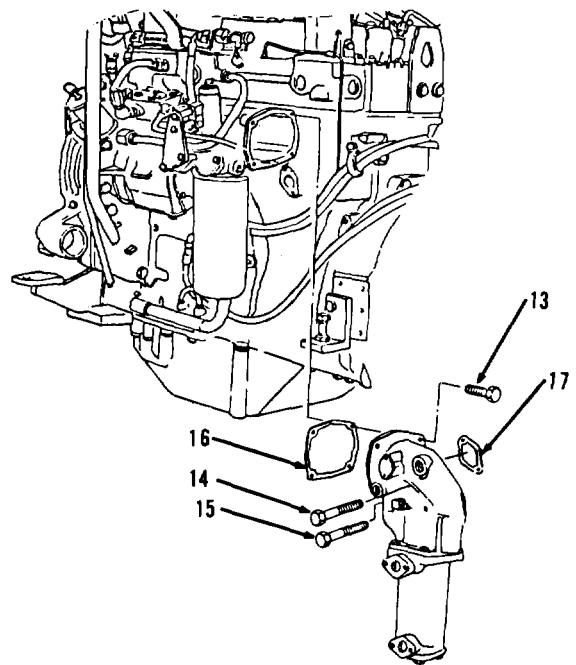

Figure 5-61.
1. Position two new gaskets (17 and 16) and items 31 thru 18 as an assembly (Figure 5-61) on engine oil cooler.